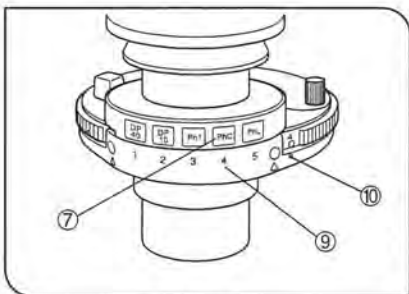

Fig. 49
6. Place the index ⑦ provided with each optical element in the index insertion hole having the same number ⑧ as the number of the position ⑥ in which the corresponding optical element is mounted. (Figs. 49 & 50)
- Ⓢ The optical element with the number indicated by marking • ⑩ is engaged in the light path. (Fig. 49)